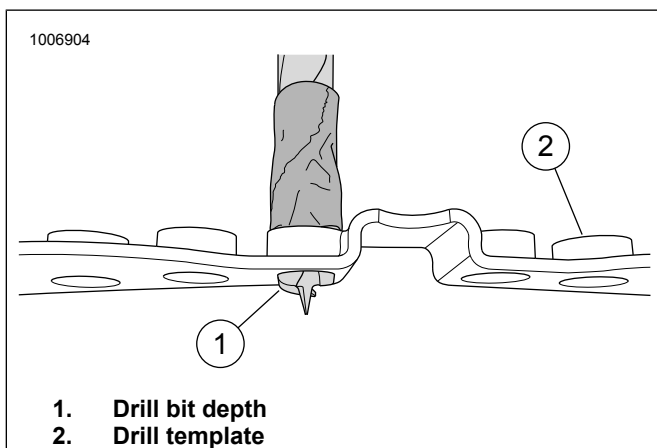

Figure 3.
7. See Figure 3. Check drill bit depth (1) against the drill template (2). It should go deep enough through the template to drill out holes in the fairing vent.